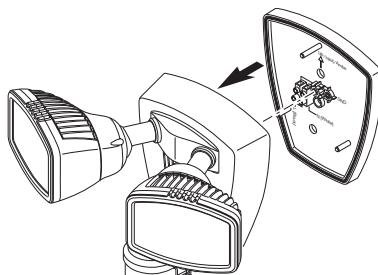

Figure 1
1. Unscrew the center mounting bolt connecting the fixture canopy to the 1-2-Easy Connect™ and remove the 1-2-Easy Connect™ (see Figure 1). The mounting bolt is designed to stay in the light fixture. **Note:** Be sure rubber gasket is on the 1-2-Easy Connect™.